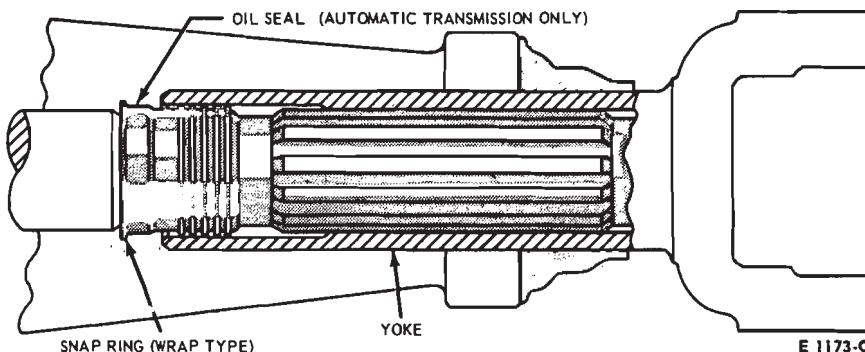

FIG. 2—Output Shaft Spline Seal
2. Lubricate the yoke spline with B8A-19589-A lubricant. This spline is sealed so that the transmission fluid does not wash away the spline lubricant (Fig. 2). Remove the tool from the extension housing. Install the yoke on the transmission output shaft. Do not allow the yoke assembly to bottom on the output shaft with excessive force.